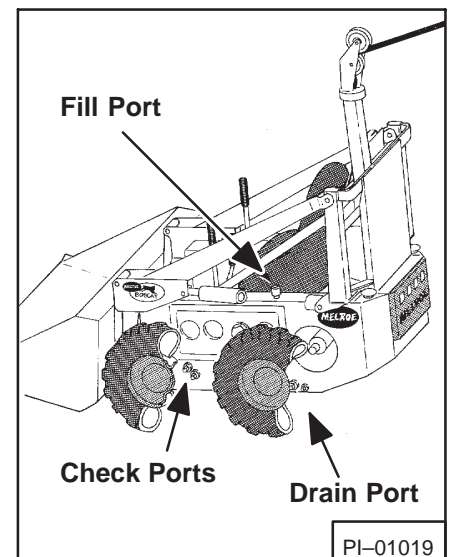

Fig. 1-6 Hydraulic fluid Level Check
11. Check for leaks and check level of fluid. It should need 2 quarts (1.9 ltr.) for filter element. Fill to the upper check plug (Fig. 1-6).